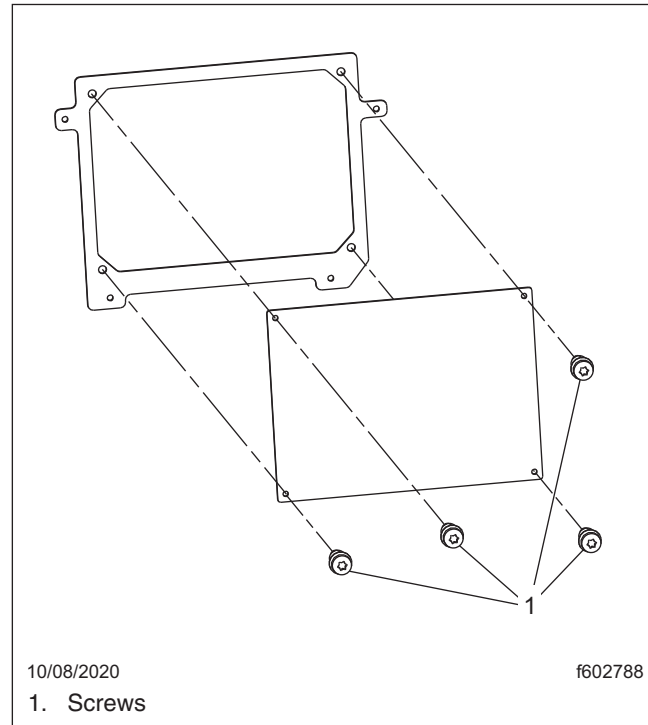

Fig. 4, Attaching the Cover to the Mounting Ring
4. Install the mounting ring assembly and blank cover of the two-piece auxiliary dash panel. See Fig. 4. Use the current auxiliary instrument panel in the vehicle as a template, if needed, to drill holes and route openings for the new blank cover panel.